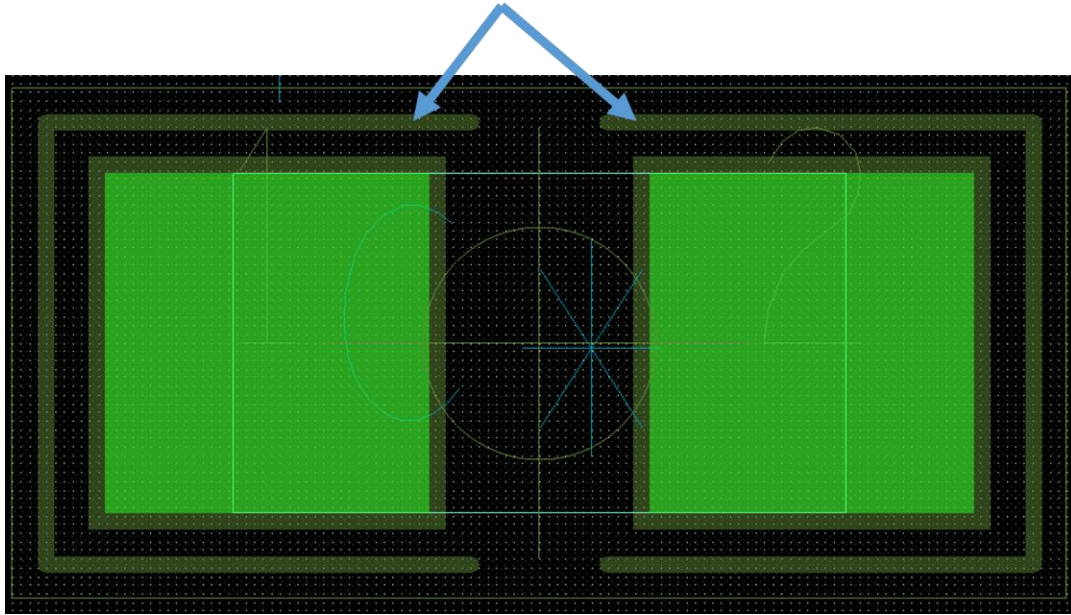

Fig. 10
8. Draw the lines around the pads, leaving 0.05 mm between the pad edge and the line, as shown in fig. 10.